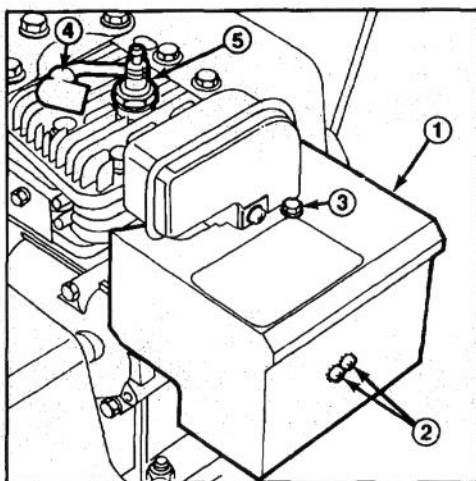

Figure 14
Note: (Model 521 only) If engine is operated when temperature is +40° F (4° C) or higher, remove carburetor heater box (Fig. 14). However, the heater box must be reinstalled when temperature falls below +40° F (4° C). To remove heater box:
- A. Remove phillips screws and hex head screw securing heater box in place. Pull choke knob off choke rod (Fig. 14).
1. Push high tension wire onto spark plug (Fig. 14).
To prevent accidental starting of the engine while performing maintenance, rotate ignition key to off and remove it from the switch. Next, pull high tension wire off spark plug (Fig. 14) and make sure wire does not accidentally touch the plug.